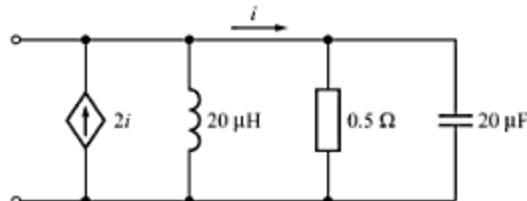

Fig. C-74
- C-126.** Find the input admittance at 50 krad/s of the circuit shown in Fig. C-74. [Ans.  $2.83 \angle -135^\circ \text{ S}$ ]